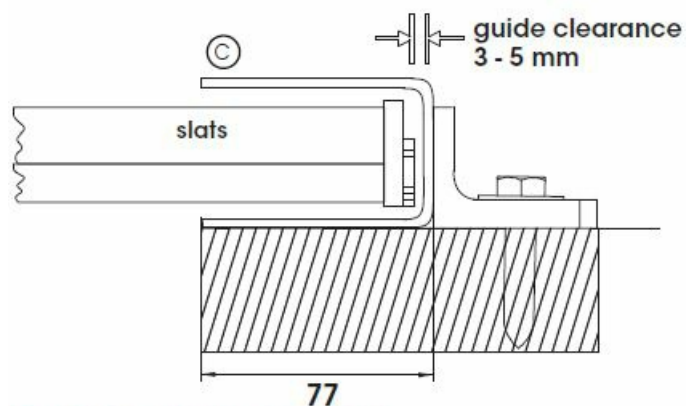
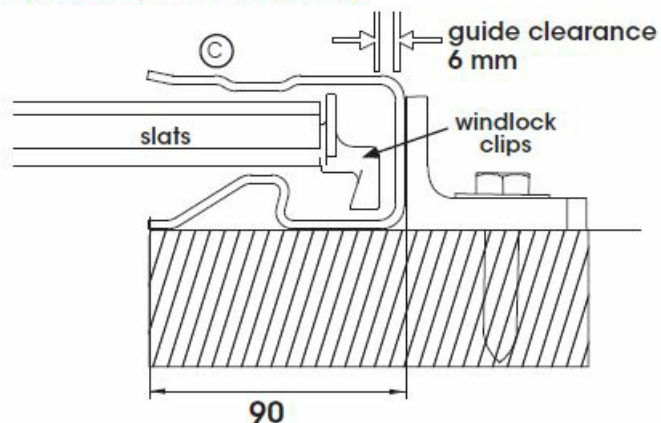

Fig: 2.5.1 (standard guide)
Fig: 2.5.2 (windlock guide)
- a) Position guides C true and plumb at each side of the opening. Allow 3-5 mm of working clearance between the shutter and the inside of each guide as per Fig 2.5.1. For Windlock setup refer to Fig 2.5.2.